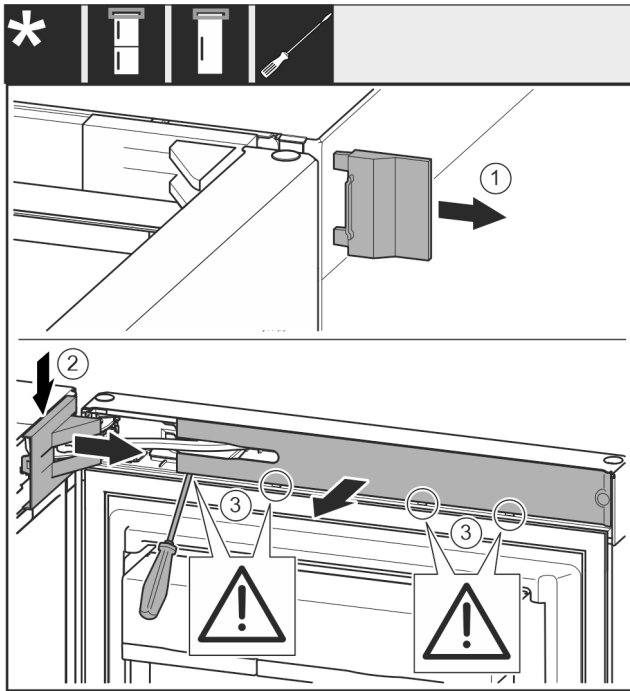

Fig. 8
- ▶ Remove cover Fig. 8 (1).
- ▶ Disengage and loosen the swap bearing block cover Fig. 8 (2).
- ▶ Remove the swap bearing block cover Fig. 8 (2).
- ▶ Use a slotted screwdriver to unlatch the trim Fig. 8 (3) and swing it to the side.